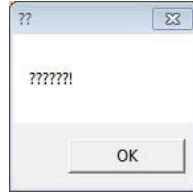

Figure 14 Failure of reading the software
5.1 Failure of reading the software (as shown in figure14) .If it shows this figure, please check if you insert the dongle rightly.